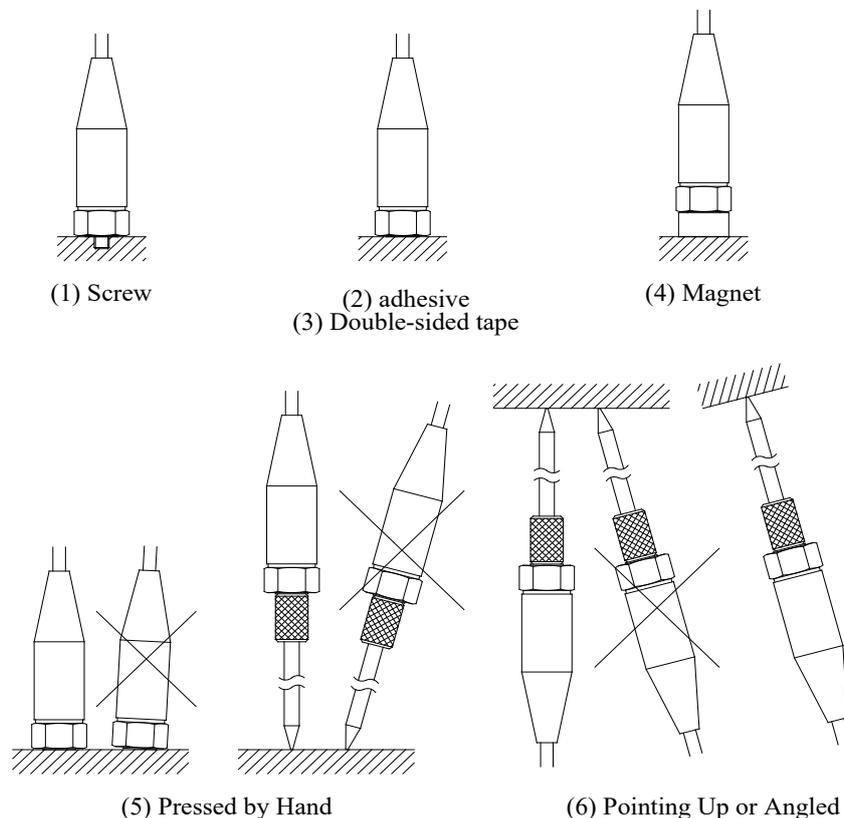

Fig.9-1 How to Fix the pickup
Pickup fixing methods include (1) Screw mounting, (2) Instant adhesive, (3) Double-sided adhesive tape (thin and strong material), (4) Magnet, and (5) pressed by hand (Fig.9-1).